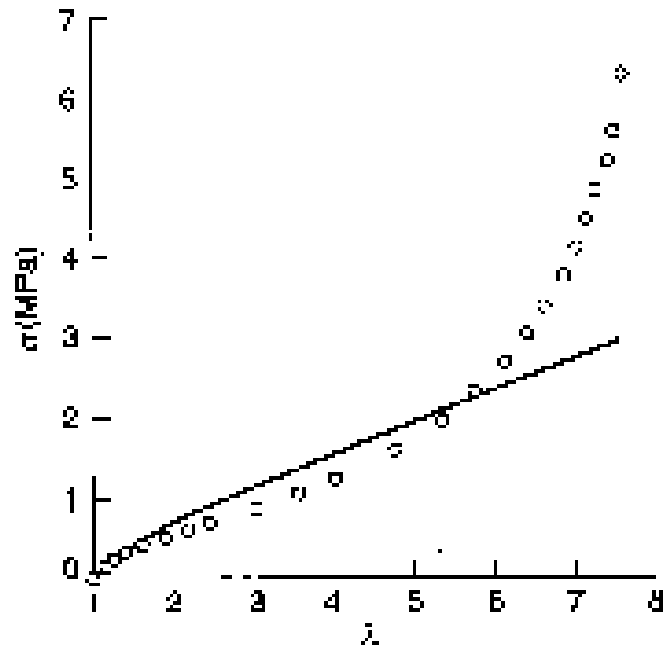

Figure 1: Nominal stress versus extension ratio, for uniaxial stretching of a sample of crosslinked natural rubber. Full line shows the Gaussian prediction.
The following are the data shown in points on the graph of Figure 1
- Look again at Figure 1 and estimate the number  $n$  of chain links in the subdivisions between cross-links and hence estimate the number of subdivisions between cross-links per unit volume of this link.